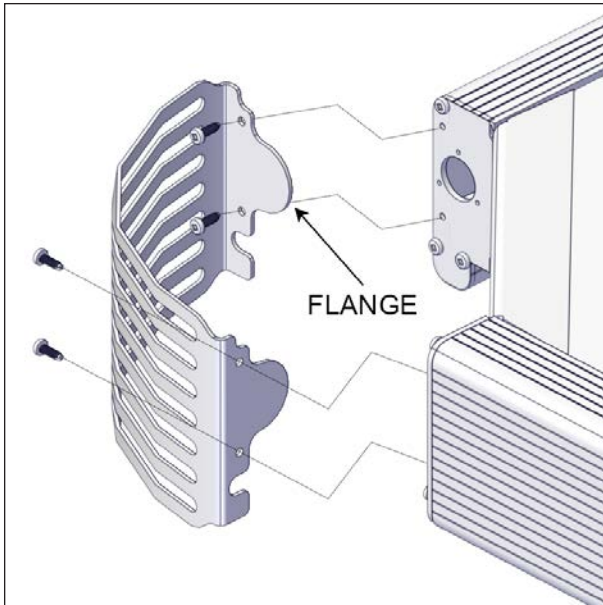

FIGURE 69: OUTSIDE CORNER INSTALLATION
3. Use a #2 6" long Robertson screwdriver to attach the outside corner bracket (left and right) on the corner bracket support by using the #8 X 1/2" screws, see Figure 69.